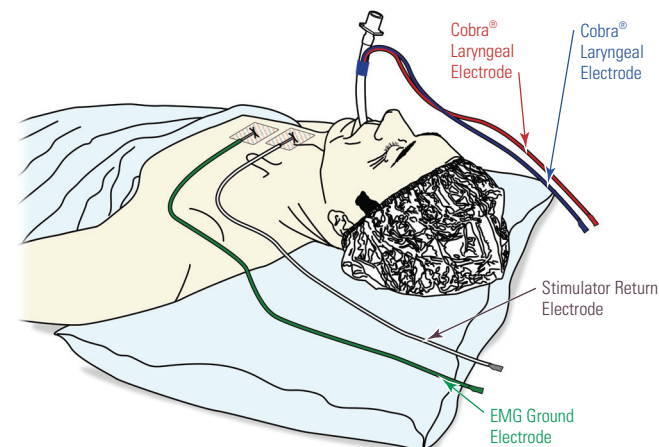

Figure 3
6) Attach the red and blue electrode lead wires to the + and - terminals of the EMG recording device and apply the EMG ground and stimulator return electrodes to the sternum as shown in Figure 3.